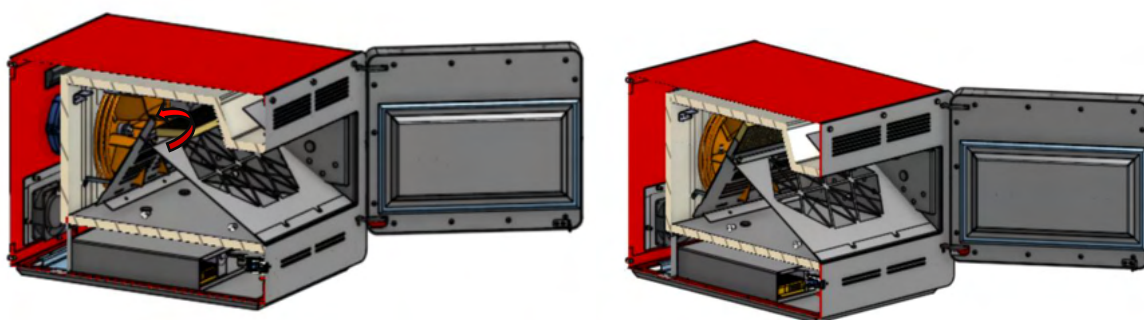

Figure 5. Filter placement
- Insert the protection plate at an angle (Figure 5) into the chamber and place the filter in the filter holder.